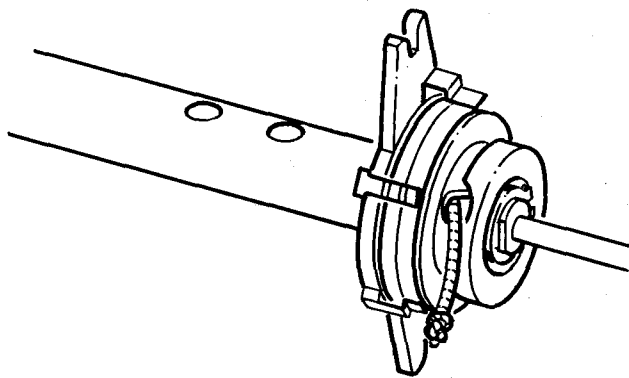

Figure 20
3. Knot one end of the replacement rope. Align the cut-out sections of the Drum and the metal Ratchet Cover. Feed the un-knotted end of the rope through the clearance hole and into the rope groove in the Drum (Figure 20).